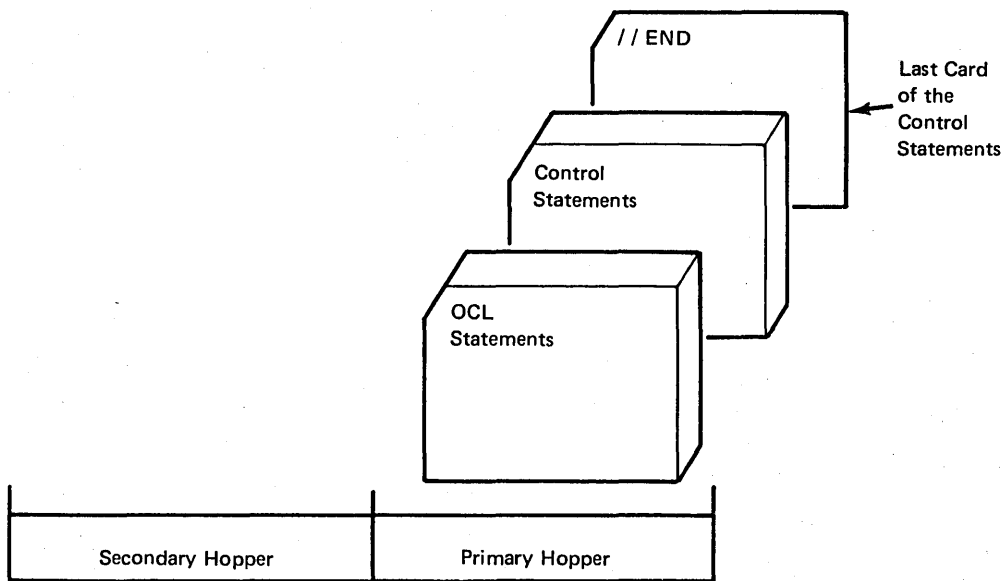

Figure 39. Input for All Utility Programs
3. Place OCL statements and control statements in reader (primary hopper of MFCU, Figure 39).
3. Place OCL statements and control statements in primary hopper of MFCU (Figure 39).